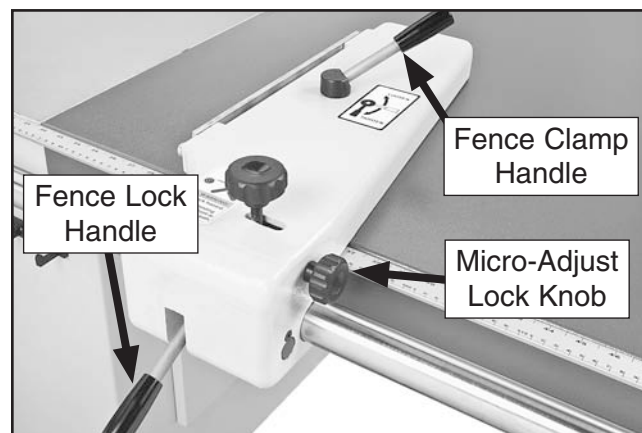

Figure 34. Rip fence body assembly installed.
36. Slide the rip fence body assembly onto the rip fence rail, then install the two handles and one knob, as shown in **Figure 34**.